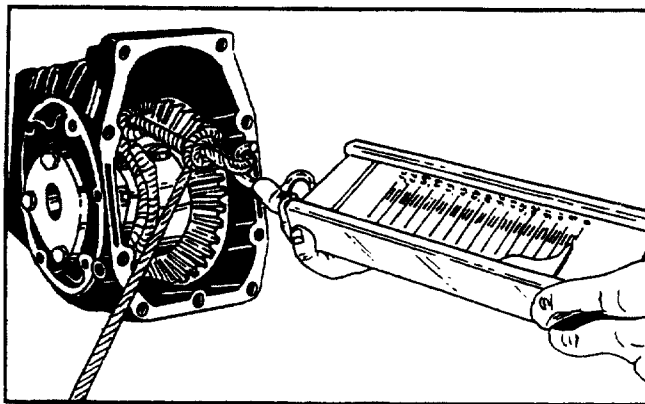

FIGURE 4.
- a. Tapered bearing preload, 4 to 14 lbs. on pull scale. (Figure 4)